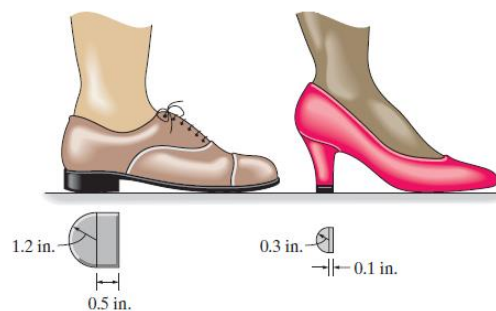

Fig. 6
6. A 175-lb woman stands on a vinyl floor wearing stiletto high-heel shoes. If the heel has the dimensions shown, determine the average normal stress she exerts on the floor and compare it with the average normal stress developed when a man having the same weight is wearing flat-heeled shoes. Assume the load is applied slowly, so that dynamic effects can be ignored. Also, assume the entire weight is supported only by the heel of one shoe. (Fig. 6)